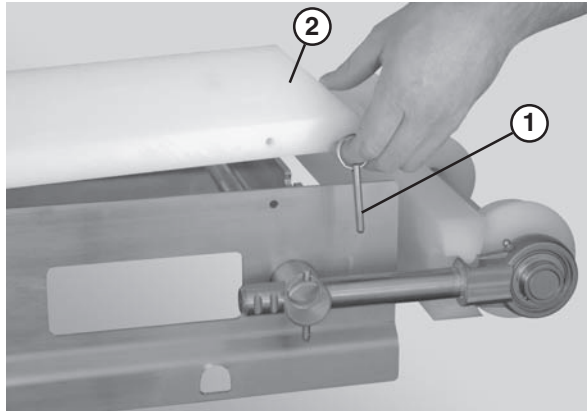

Figure 45
1. Remove the guides, if applicable, by removing the pull pins (**Figure 45, item 1**) that connect the guide (**Figure 45, item 2**) to the frame.
1. Remove the guides, if applicable, by removing the pull pins (Figure 45, item 1) that connect the guide (Figure 45, item 2) to the frame.